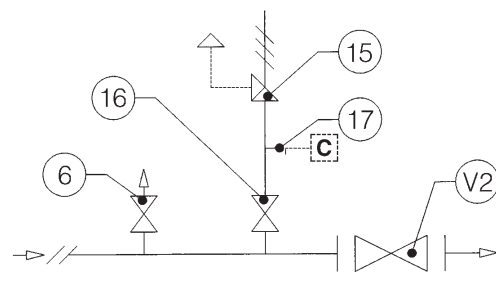

Fig. 7
3.1.2 INSTALLAZIONE CON VALVOLA DI INTERCETTAZIONE (FIG. 7)
3.1.2 INSTALLATION WITH ON/OFF VALVE (FIG. 7)
3.1.2 SBV INSTALLATION MIT ZUS. ABSPERRORGAN (FIG. 7)
3.1.2 INSTALLATION AVEC VANNE DE SECTIONNEMENT (FIG. 7)
3.1.2 INSTALACIÓN CON VÁLVULA DE INTERCEPTACIÓN (FIG. 7)
3.1.2 INSTALAÇÃO COM VÁLVULA DE CORTE (FIG. 7)